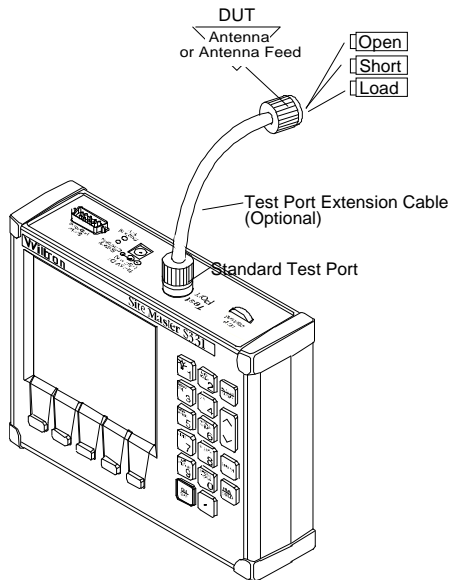

Figure 2-9. Measurement/Calibration Test Setup
“Connect LOAD, Press ENTER” instructions that appear in the message area. Connect the respective Open, Short, and Load component to the end of the Test Port Extension Cable (Figure 2-9) prior to pressing ENTER.
- Step 7.** Perform a measurement calibration, using the START CAL key. Select CAL A or CAL B. Follow the ensuing “Connect OPEN, Press ENTER,” “Connect SHORT, Press ENTER,” and “Connect LOAD, Press ENTER” instructions that appear in the message area. Connect the respective Open, Short, and Load component to the end of the Test Port Extension Cable (Figure 2-9, page 2-24) prior to pressing ENTER.